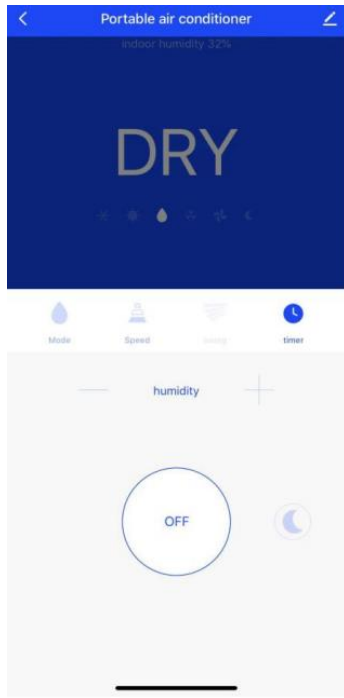
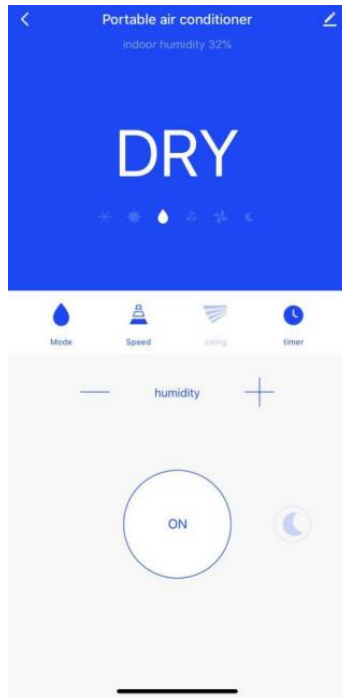

Fig.15
Fig.16
1. Tap "OFF" in Fig.15, the interface will turn to Fig.16 and the appliance will begin to work.